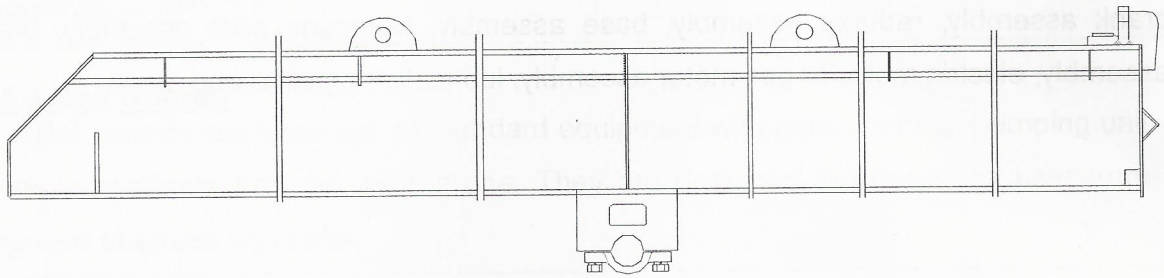

Fig.2: Walking Beam Assembly Structural Sketch
3.2.1 Walking Beam Assembly (Fig.2)